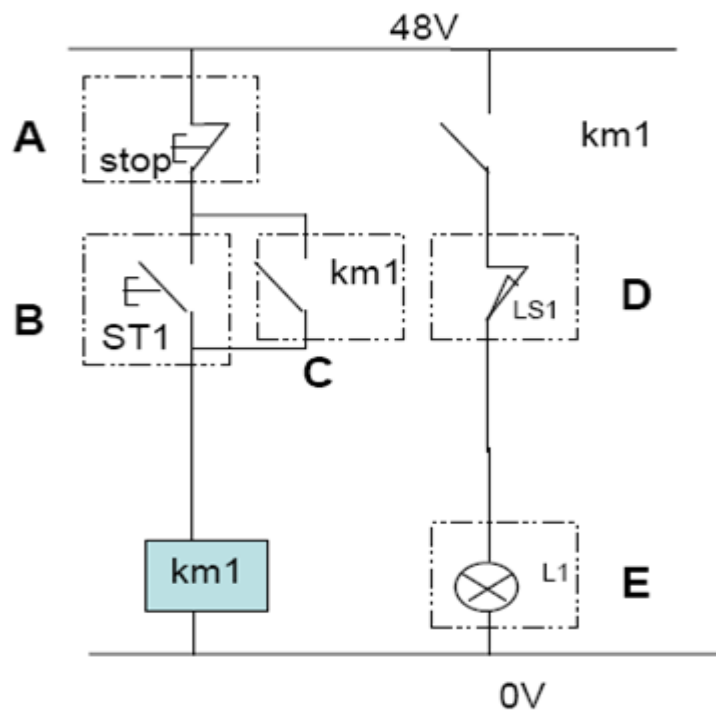

Figure 9: Schematic diagram of a simple control circuit
Consider a control circuit shown in **Figure 9**.
- (c) Modify the control circuit in **Figure 9** by adding a yellow indicator light and another start button (ST2). The yellow indicator light shows that the power supply is ON and when one of the two start button is pressed (ST1 or ST2), the yellow light will OFF.